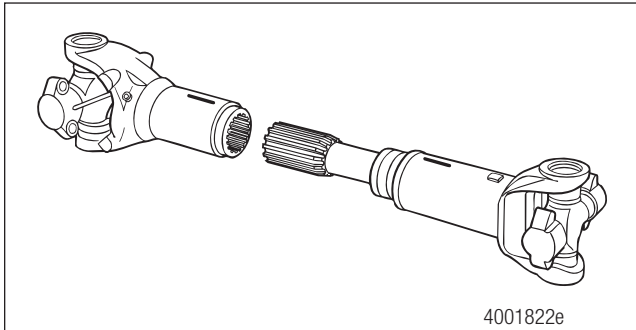

Figure 5.38
4. Pull the slip yoke and slip shaft sections apart. Figure 5.38.